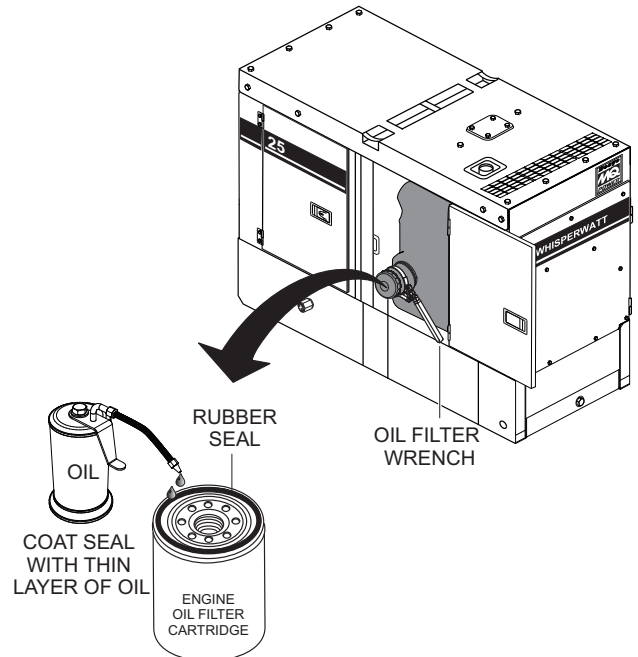

Figure 70. Oil Filter Replacement
2. Using an **oil filter wrench** (Figure 70), remove the **engine oil filter**.
3. Coat the rubber seal (gasket) surface of the new oil filter with clean 15W-40 engine oil (Figure 70).